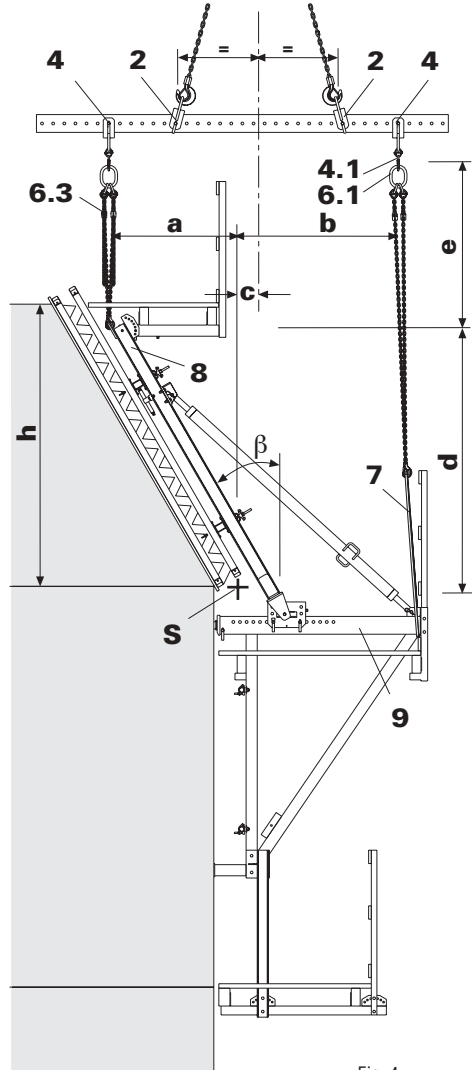

Fig. 4
4. Move climbing formwork unit. Fig. 4